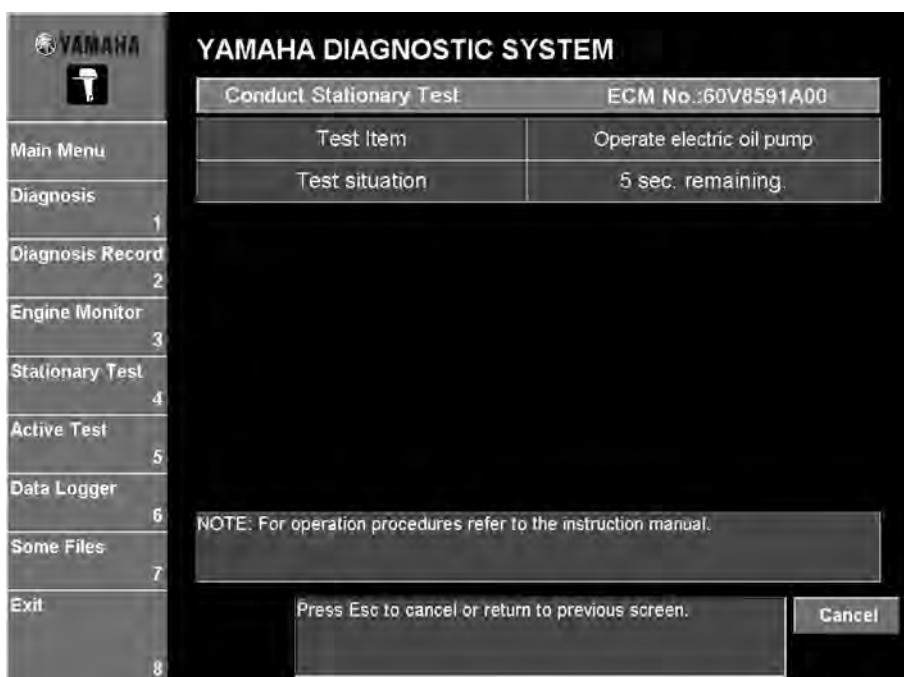

Fig. 82
4. Check that oil flows from the electric oil pump hose end. (Fig. 82)